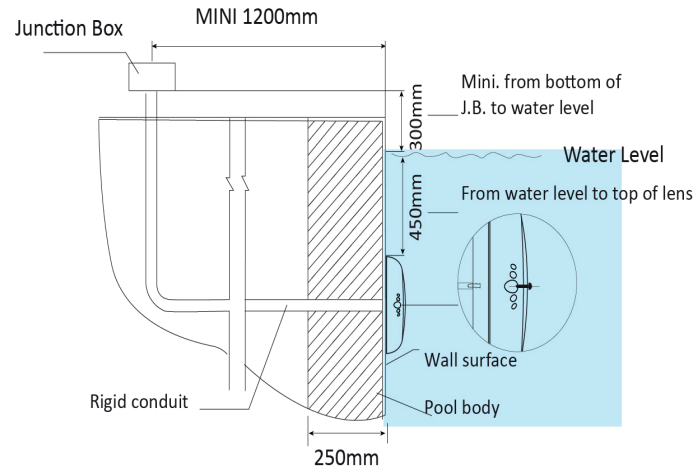

Figure 1
3. The top edge of the light's lens is at least 450mm below the water level in the pool. see Figure 1.